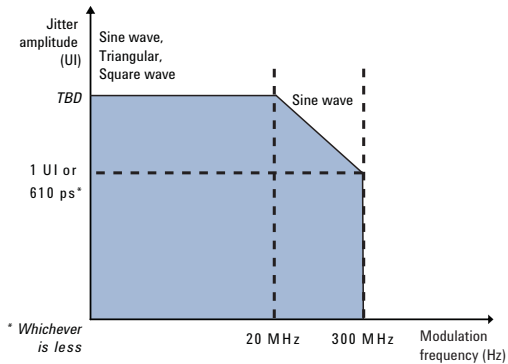

Figure 18. Periodic jitter maximum for datarates ≤ 3.375 Gb/s using the 610 ps delay line.
1. Available range depends on modulation frequency and data rate (see Figures 18 and 19).
Total delay variation for periodic jitter is shown in Figures 18 and 19.